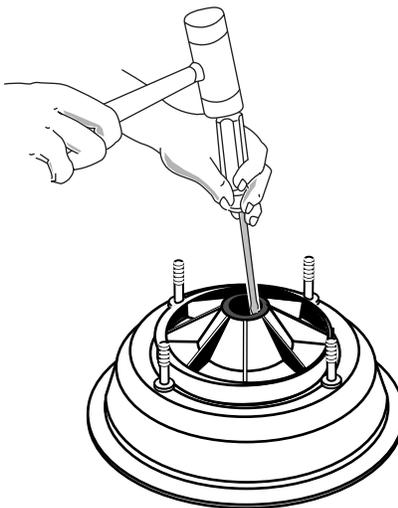

Figure 9
- Place pump body face down on flat surface and tap out stationary half of seal (See Figure 9).